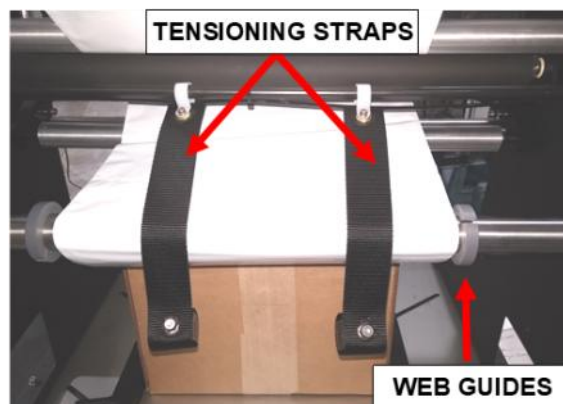

Figure 34D. Tensioning Straps & Web Guides
10. Adjust the (4) Web Guides against the edges of film.
11. Place the Tensioning Weight Straps over film. **Figure 34D.**